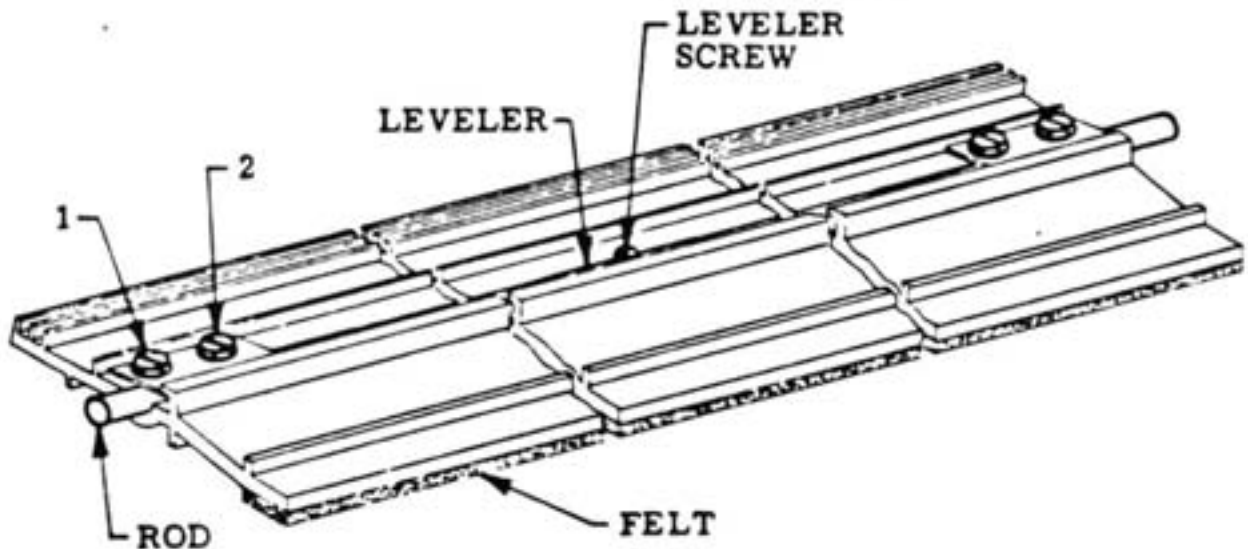

FIGURE 29
The Damper Release Bar is secured to the Harp Support Blocks by means of two removable Rods. (See Figure 29).
- a. Loosen, but do not remove, the two Screws (1 and 2, Figure 29).
- c. Remove the Leveler Screw located in the center of the Damper Release Bar (Figure 29).